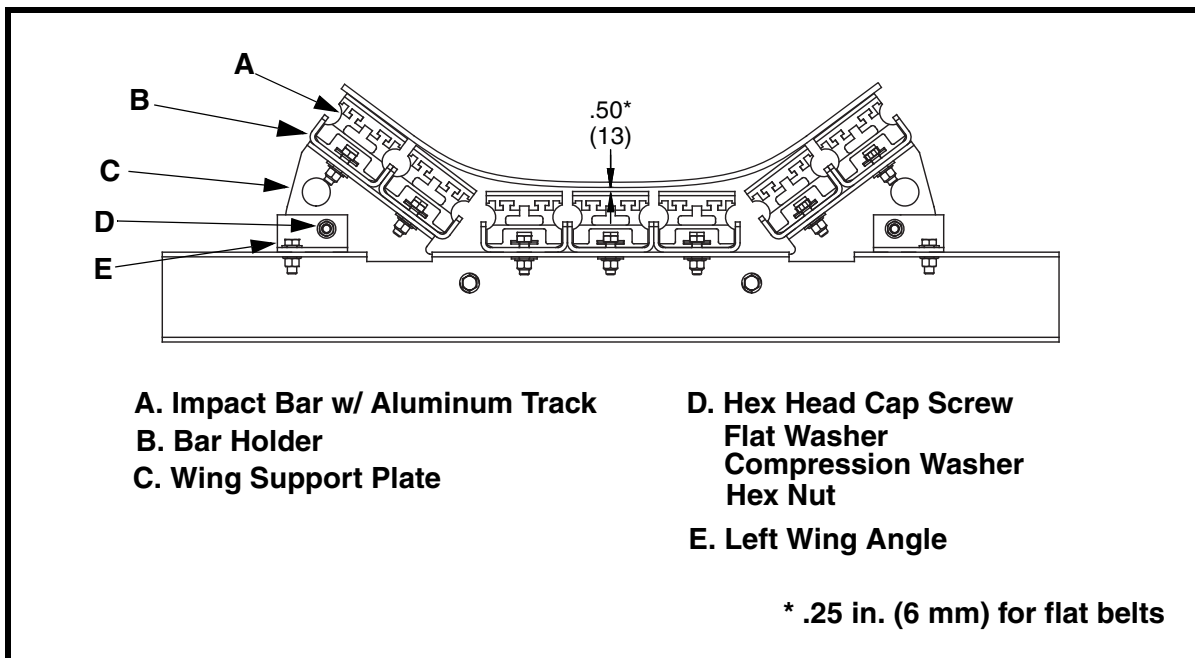

Figure 2. Installing Martin® Impact Cradles
3. Make sure distance from top of center bar to bottom surface of belt measures 1/2 in. (12 mm) maximum for troughed belts and 1/4 in. (6mm) for flat belts (see Figure 2). If distance is greater than this, add shims under base weldment to raise impact cradle to height of adjacent idlers. (Shim Kit, P/N 34163 is available from Martin Engineering.) If distance is less than this, contact Martin Engineering or a representative.
4. For troughed belts, make sure clearance between belt and wing section is 1/2 in. (13 mm) where wing section meets base and tapers to no clearance between belt and wing section at outside edge (as shown in Figure 2).
- a. If bolting, drill or cut 9/16-in. holes in stringers through mounting holes in feet of base weldment cross-supports. Install hex head cap screw, flat washer, compression washer, and hex nut (Figure 2) in each hole to secure base weldment to stringers.